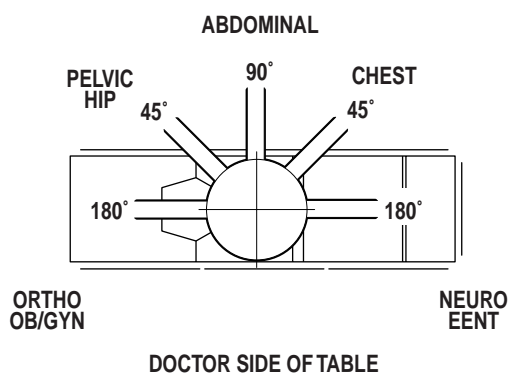

Figure 8. Main Lighthead Radial Arm Positioning
4. Refer to figure 8 to approximate the desired radial arm position for locating the lighthead over the patient.